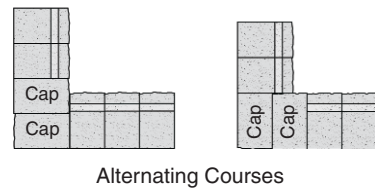

Figure 9
**Inside Corners:** Inside corners are easy to build. Use 2 *Full Caps* for every course at the intersecting corners, alternating the courses as shown in Fig. 9. Apply **SRW Adhesive** to the corner cap units for added strength.